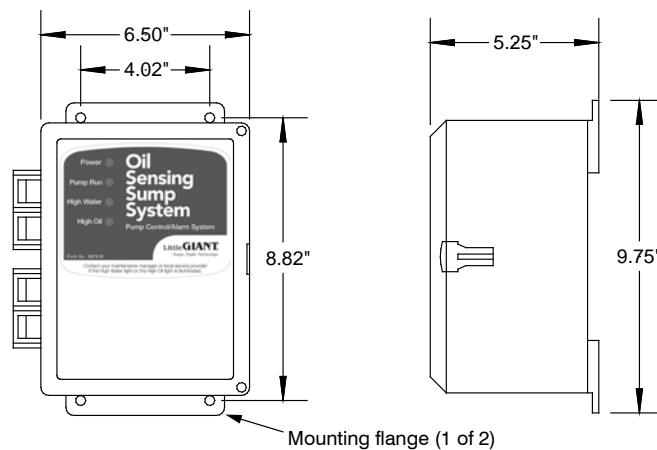

FIGURE 2
2. Attach the 2 mounting flanges (Figure 2) to the control panel enclosure.
#### POUR UNE POMPE NON SUBMERGÉE (FIGURE 2) :